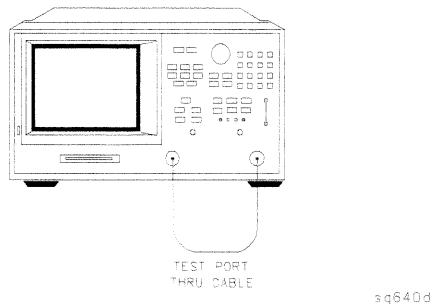

Figure 4-8. Equipment Setup
1. Connect the equipment as shown in Figure 4-8 below. (The thru cable is HP part number 8120-4779.)